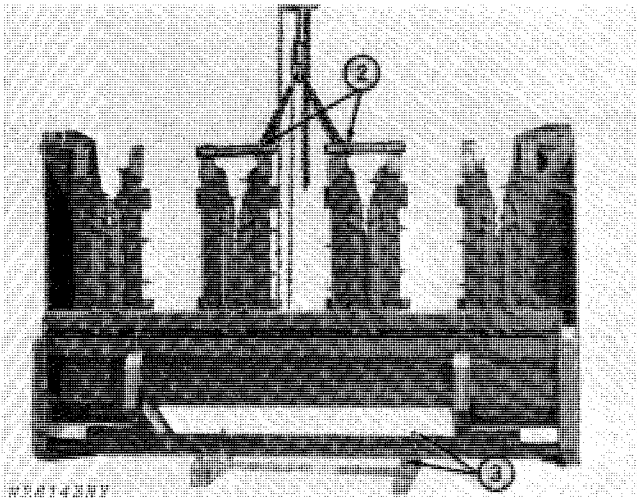

Fig. 86-Attaching Hoist to Corn Head
2. With the aid of an overhead hoist, attach a heavy lifting chain to the shipping channels (Fig. 86). Raise corn head just high enough so skid uprights and clamps can be removed.